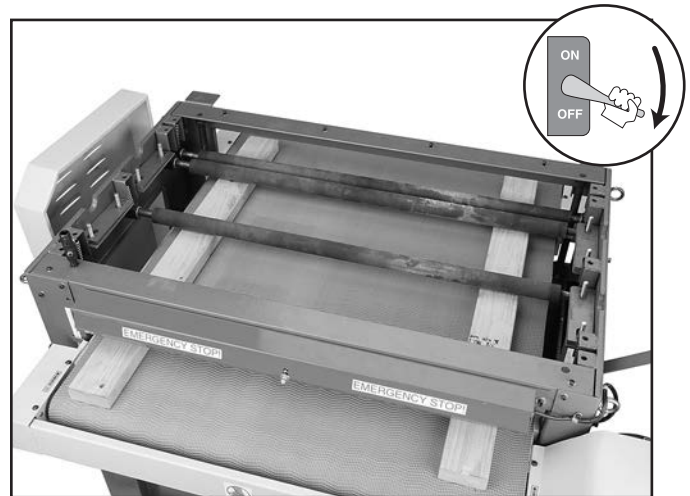

Figure 70. Gauge blocks set under pressure rollers to relieve spring tension with the table.
5. Place the gauge blocks face down, as shown in **Figure 70**, raise the table to relieve the spring pressure on the pressure rollers, remove the pressure roller nuts, and lower the table to remove the pressure rollers.